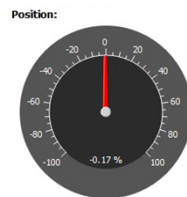

Figure 24. Pushrod adjusted.
19. Click the adjust button to zero out the LVDT. The needle will adjust to the new % position (close to 0%). A typical zeroed pushrod read out is shown in Figure 24.
12. Click the adjust button to zero out the LVDT. The needle will adjust to the new % position close to 0% (refer to figure 24).